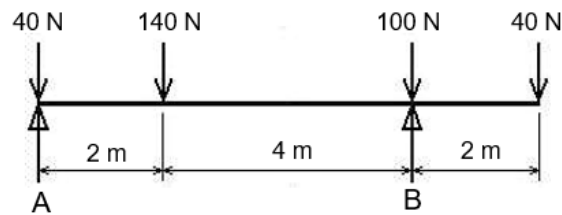

FIGURE 5.3
- 5.3 FIGURE 5.3 shows a beam with point loads. Calculate the reaction force of Support B.